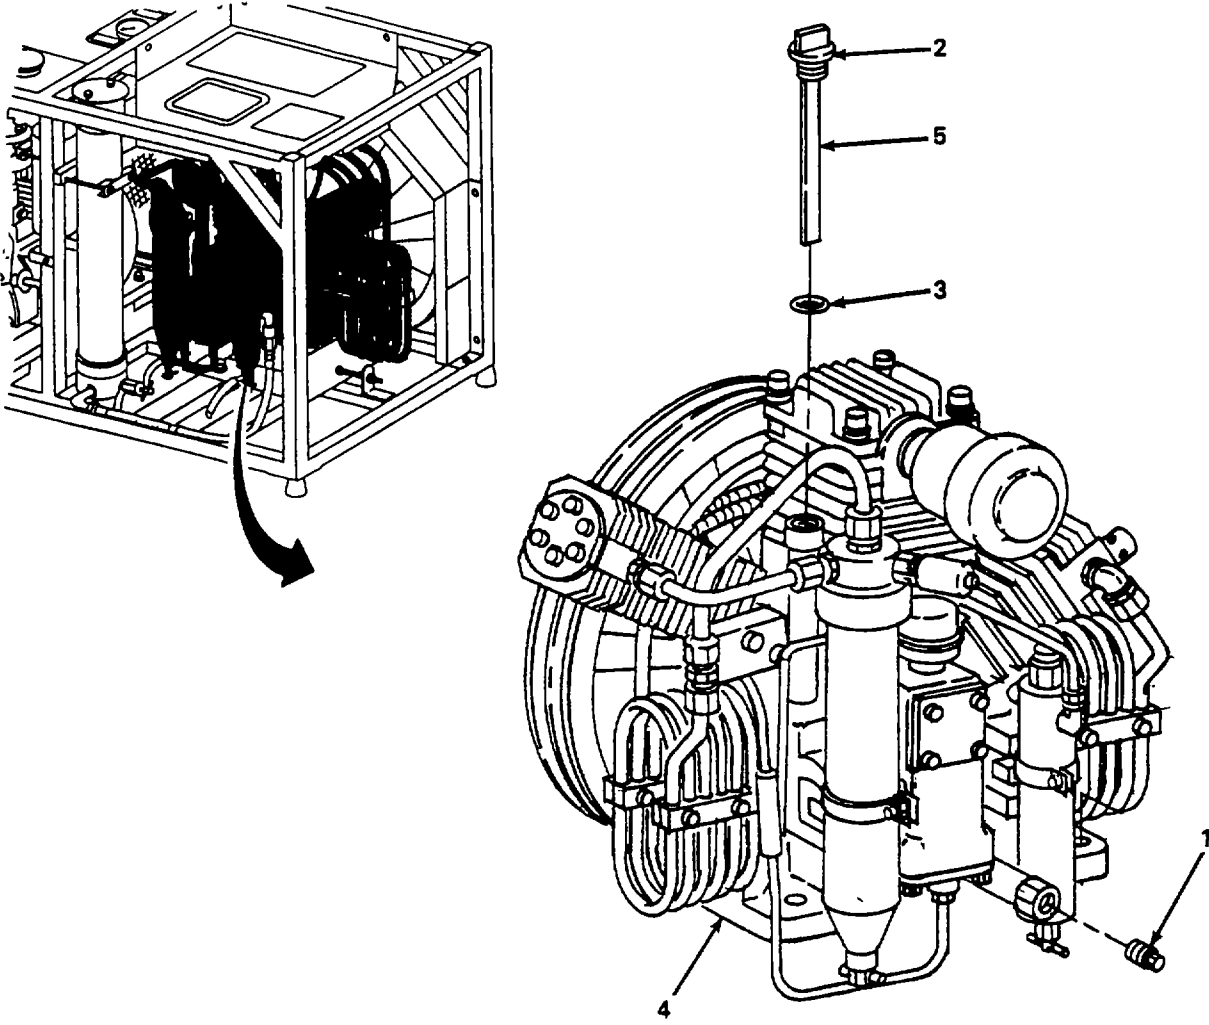

Figure 4-4. Air Compressor Assembly, Service.
- (1) Start and operate compressor (para. 2-12).
- (2) Test air output of compressor with detector kit.
- (3) Compare results of test with specifications in FM 20-11-1 Air Purity Standards.
- (4) Shut down air compressor (para. 2-12).
**b. Service.** (figure 4-4)
- (1) Remove drain plug (1) and drain compressor oil into suitable container.
- (2) Install drain plug (1).
- (3) Remove filler tube plug (2) and preformed packing (3).
- (4) Fill compressor (4) with oil until oil level reaches mark on dipstick (5). Refer to table 3-1 for proper grade viscosity of compressor oil.
- (5) Install filler tube plug (2) and preformed packing (3).